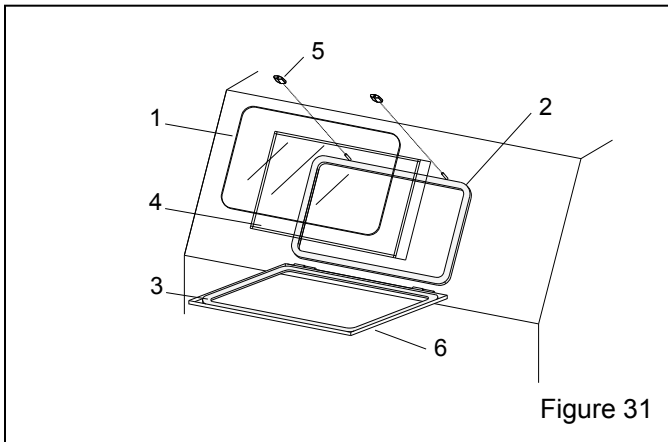

Figure 31
9.5 View Window Assembly, Figure 31